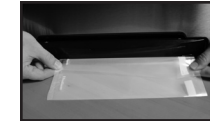

Fig. 6
- 3. Hold bag taught with two hands and pull bag through the cutter (See Fig. 6).
- f. Check to ensure Release Buttons (K) are properly latched.
- g. Check Gasket (M) around Drip Tray to make sure it is free from food material and Upper Foam Gasket is properly inserted into gasket channel.